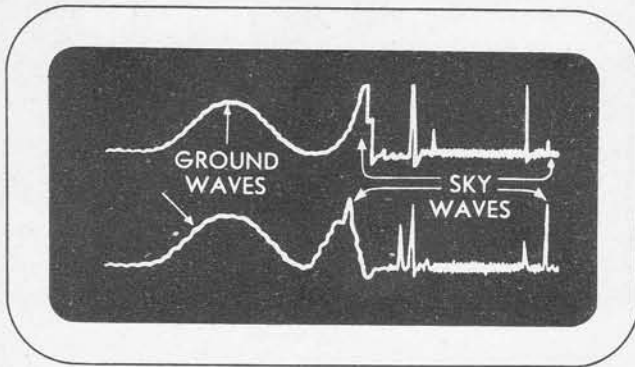

Figure 3-35. Ground and Sky Wave Signals — Position "2"
(3) Figure 3-35 shows the pattern of ground waves and sky waves in "FUNCTION" switch position "2." Note that the train of signals on the upper trace has essentially the same shape and characteristics as the train of signals on the lower trace.